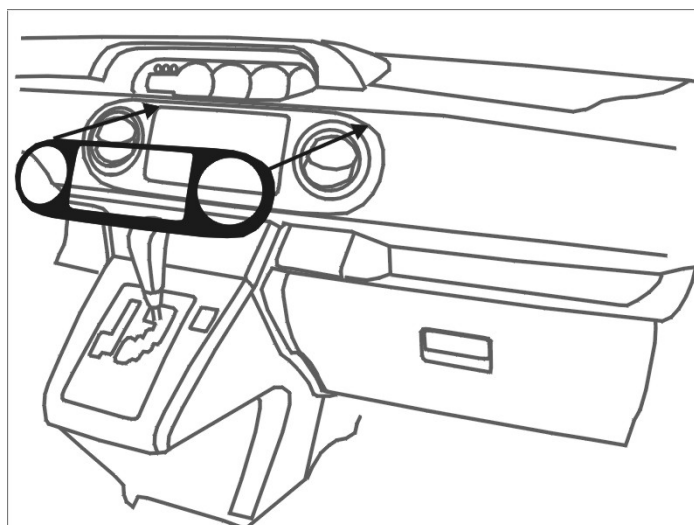

Fig. 1
-  (1) Align part uniformly to edge of factory component. Fig. 1
- (2) Gently touch part into position.
- (3) Edge of appliqué should be flush to edge of factory component, +/- 1.0mm.
- (4) Once positioned, press part firmly into place by applying finger pressure. Pressure is required for adequate bond to factory component.